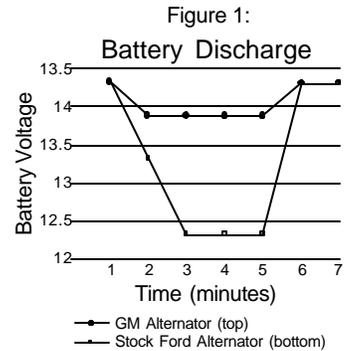

Figure 2
To do the alternator swap, I used a kit supplied by M.A.D. Enterprises (P.O. Box 675, Springville, CA, (559) 539-7128). I performed this swap on my '68 302 car, but the same kit and procedure should apply to any Cougar model year/engine combination from '67 to '73. In hotrodding circles, putting the Delco-Remy (GM) alternator on Ford products has become a popular enough trick to provide a market for a kit with all the goodies ready-to-go, and M.A.D. did the engineering work and filled the economic niche. Figure 2 shows what you get for your \$29. The materials supplied include wires, fusible links, crimp-on connectors, heat shrink tubing and a diode that might be required, depending on application.